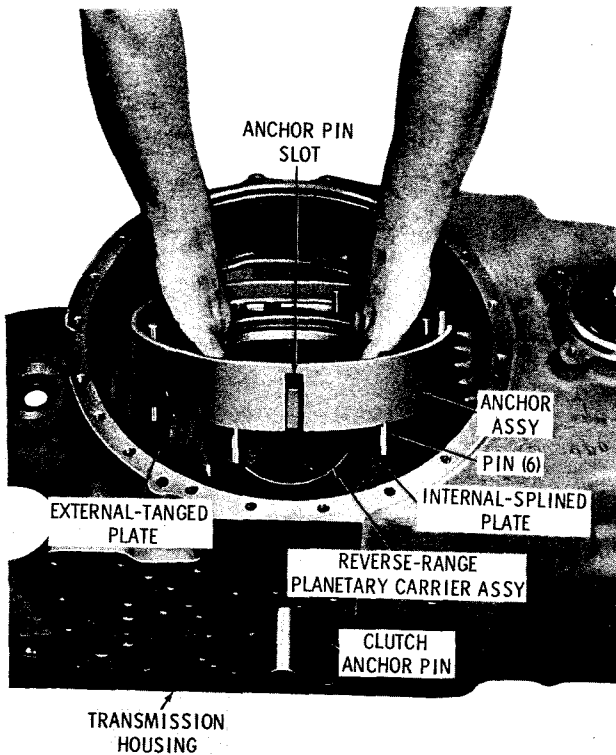

Fig. 7-14. Installing reverse-and-low-range clutch anchor assembly
(3) Install one external-tanged plate and one internal-splined plate onto the reverse-range planetary carrier assembly (fig. 7-14).
(4) Aline the slots of the five reverse-range, external-tanged clutch plates to receive the pins in the clutch anchor assembly (fig. 7-14). Install the clutch anchor pin into the control valve mounting pad on the left side of the transmission housing. Aline the anchor pin slot with the clutch anchor pinhole within the transmission housing, install the reverse-and-low-range clutch anchor assembly, longer ends of pins downward, and engage the slots of the five external-tanged clutch